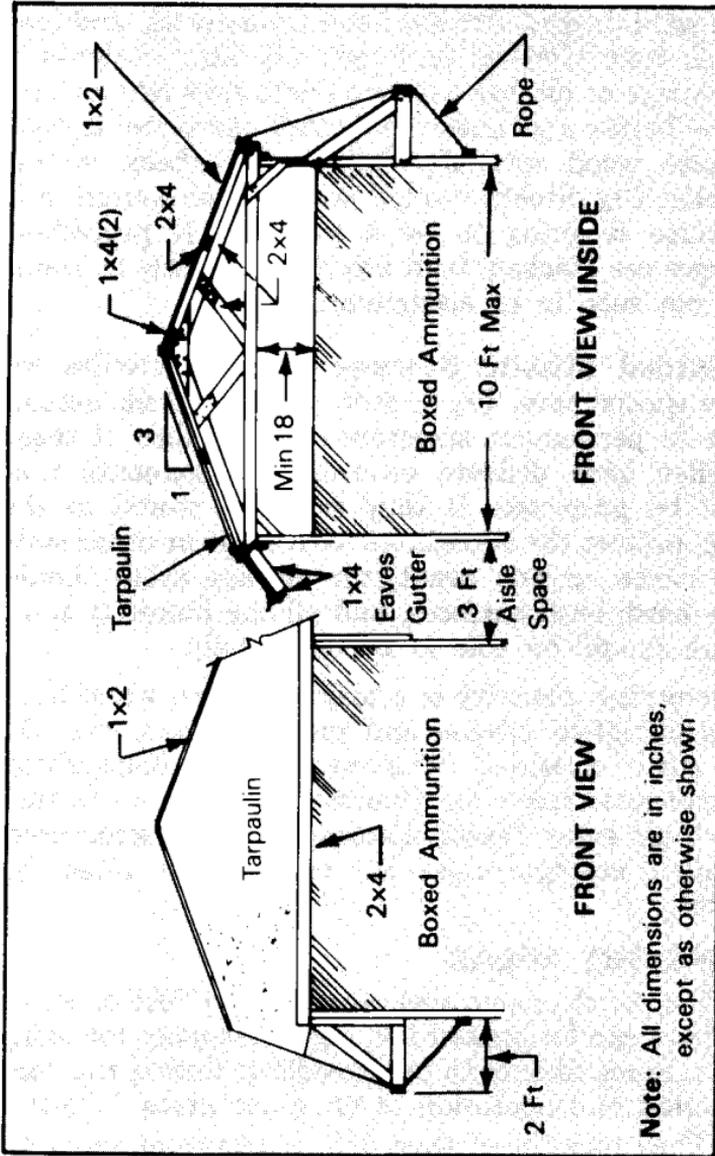

Figure 2-5. Cross Section Details of an A-Frame Ammunition Storage Module.
**Protection from the Weather.** Basically, four things are necessary to protect ammunition from the weather: adequate shelter, enough dunnage, good drainage, and good ventilation. Tarpaulins (tarps) over stacks help (see Figure 2-5), but unless the tarps are raised clear of the stack (18-in minimum), they will be useless. Tarps can also be used as improvised shelters for VT fuzes and pyrotechnics.